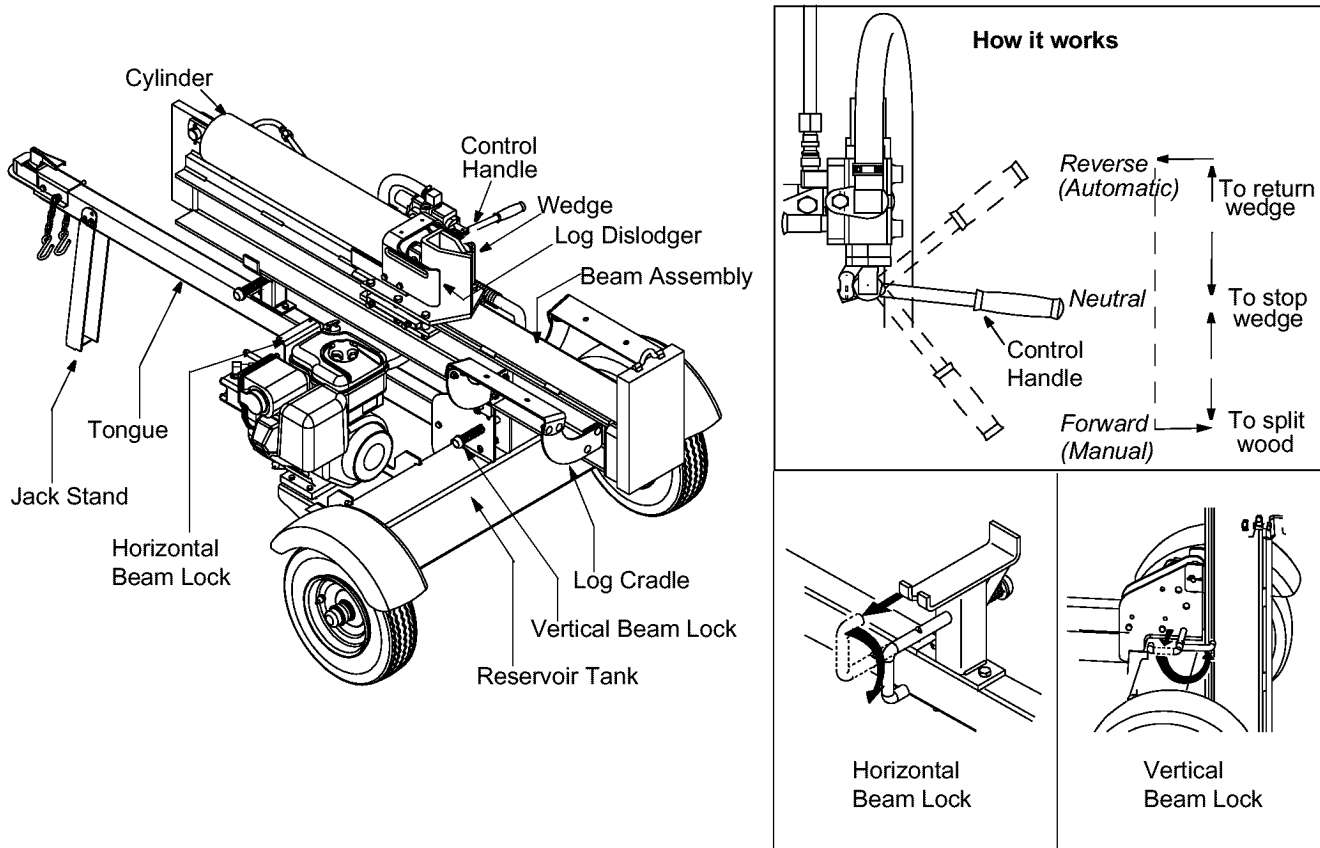

Figure 13
Compare the illustration in Figure 13 below with the controls on your log splitter, and get familiar with its features before starting to operate. Know how to stop the machine quickly in the event of an emergency.
The control handle has three positions. See Figure 13.
These two locks, as their name suggests, are used to secure the beam in the horizontal or the vertical position. The vertical beam lock is located next to the oil filter. The horizontal beam lock is located on the beam support latch bracket. See Figure 13.
- To lock the beam in the vertical position, pull out on the vertical beam lock and rotate it to secure the beam. See Figure 13.
- Pull the vertical beam lock out and rotate it down. See Figure 13. Pivot beam to the horizontal
- Pivot beam lock down to release the beam. Carefully pull back on beam and lower it to the horizontal position. The horizontal beam lock will lock automatically. See Figure 13.